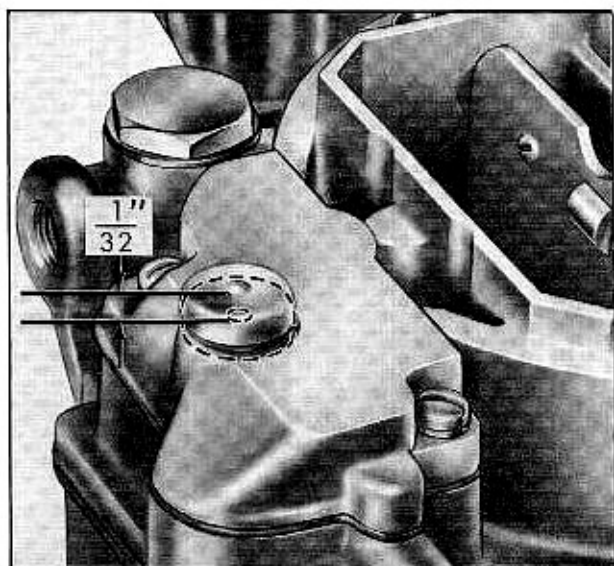

Fig. 12-33 Idle Vent Opening
1. Check vent valve opening by measuring the difference in height (at the rivet head on valve) with the primary throttle valve in the open position and then in the closed (hot idle) position. Be sure choke is off. This should be $1/32$ inch. Fig. 12-33.